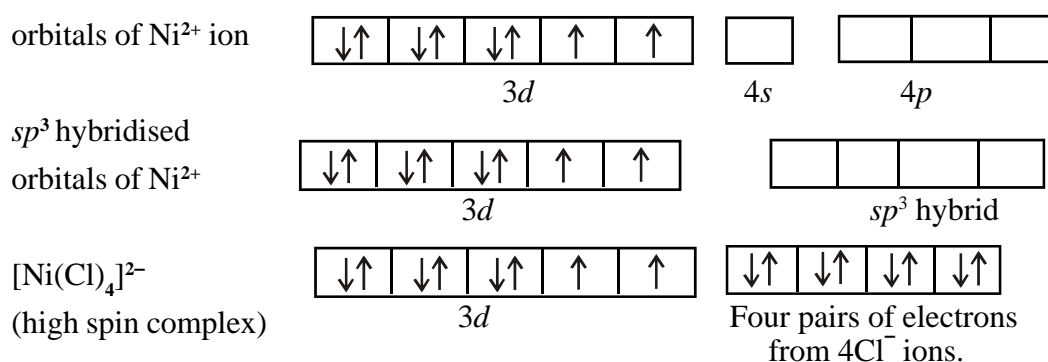

**Fig 13.7 Formation of square planar  $[\text{Ni}(\text{CN})_4]^{2-}$  complex involving  $dsp^2$  hybridisation of  $\text{Ni}^{2+}$  ion orbitals**
The Ni (II) ion has  $3d^8$  outer electronic configuration. The 8 electrons are to be distributed in five  $d$  orbitals. According to Hund's rule, there are two unpaired electrons. The hybridisation scheme is as show below in diagram (Fig. 13.7).